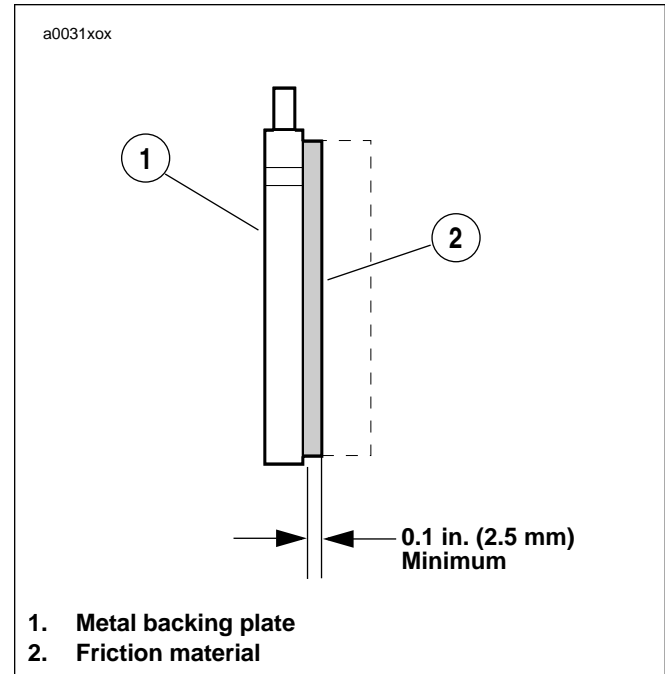
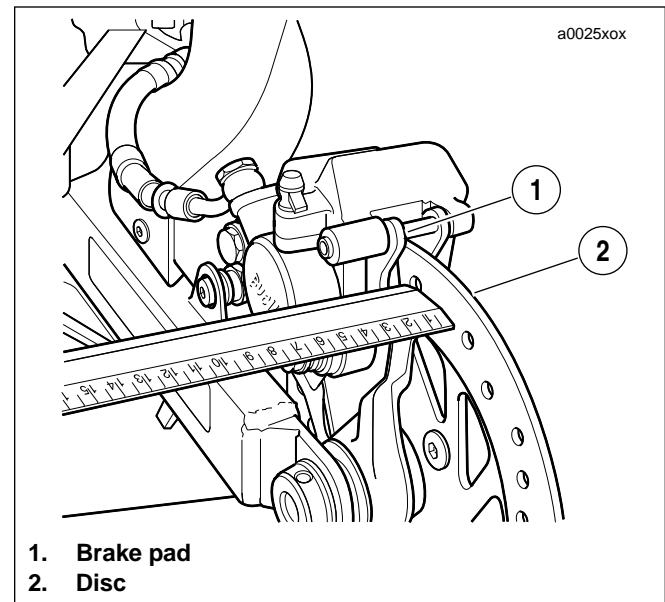

Figure 1-9. Brake Pad - Side View
Figure 1-10. Measuring Rear Brake Outer Pad
See Figure 1-9. Inspect brake pads for damage or excessive wear. Replace both pads as a set if friction material of either pad is worn to 0.1 in. (2.5 mm) or less. If this amount of wear occurs, wear grooves (2) will disappear from friction material surface. See Figure 1-10.